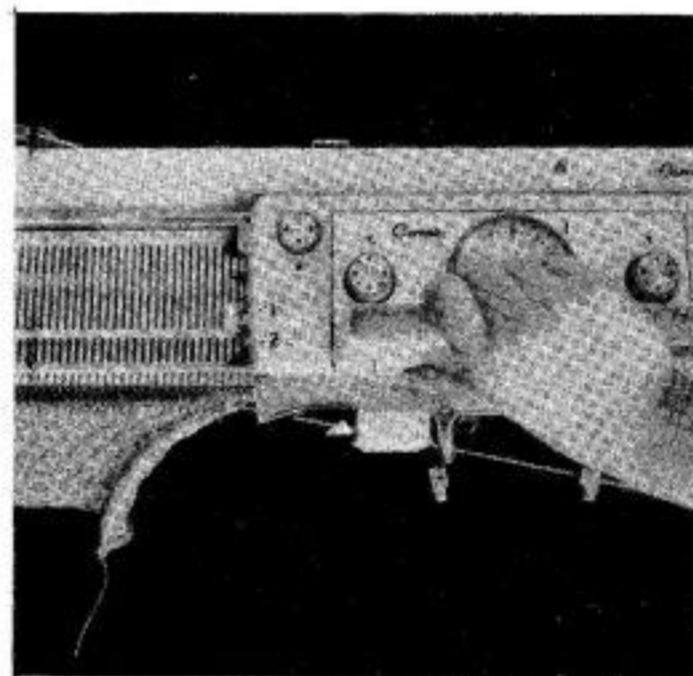

Fig. 33
\* **1st row** Carriage on right. Open **both** Feeders (out of action position) as shown in Fig. 33. Push in the Row Counter Trip Arm so that the Row Counter will not register.
Push back into Position (B) the end needles opposite Nos. 1, 2 and 3 on the N.S.G.S. Move carriage from right to left at the same time pushing in the leading Needle Forwarding Lever (left hand lever). (Fig. 33)